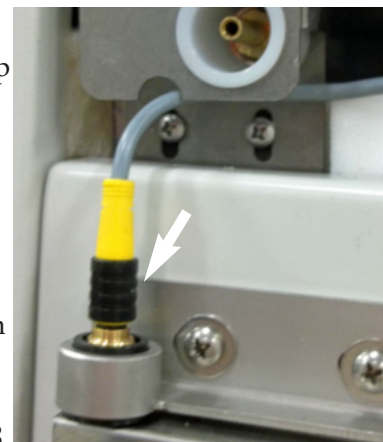

Figure 6-7. Yellow Sleeve
5. Unplug the cable on the top of the inner door by sliding the black sleeve up on the yellow connector on the top of the door. Refer to Figure 6-7.